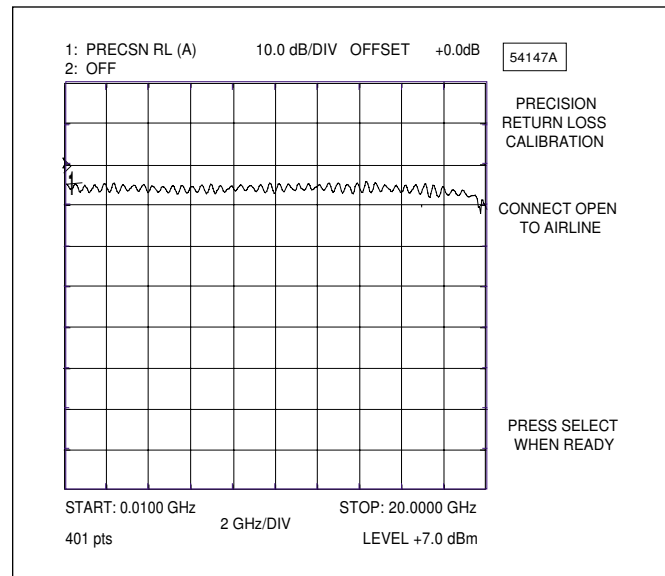

Figure 5. Example of a Good Connection
17. Verify that the display resembles that shown in Figure 5.